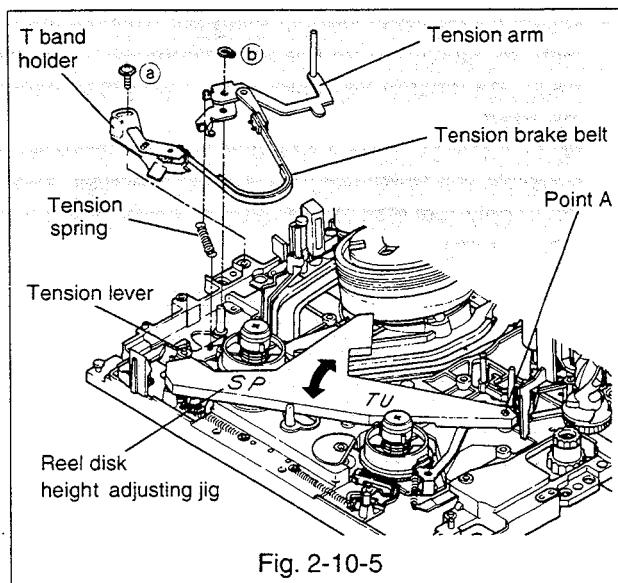

Fig. 2-10-5
- F. Assemble the tension arm to the shaft and secure the arm with the grip ring ⑥.(Refer to Fig. 2-10-5.)
G. Fasten the tension spring to the tension arm and the tension lever.(Refer to Fig. 2-10-5.)
H. Assemble the T band holder to the main plate with care not to score or dirty the tension brake belt, and secure the holder with the screw ⑦ lightly.(Refer to Fig. 2-10-5.)